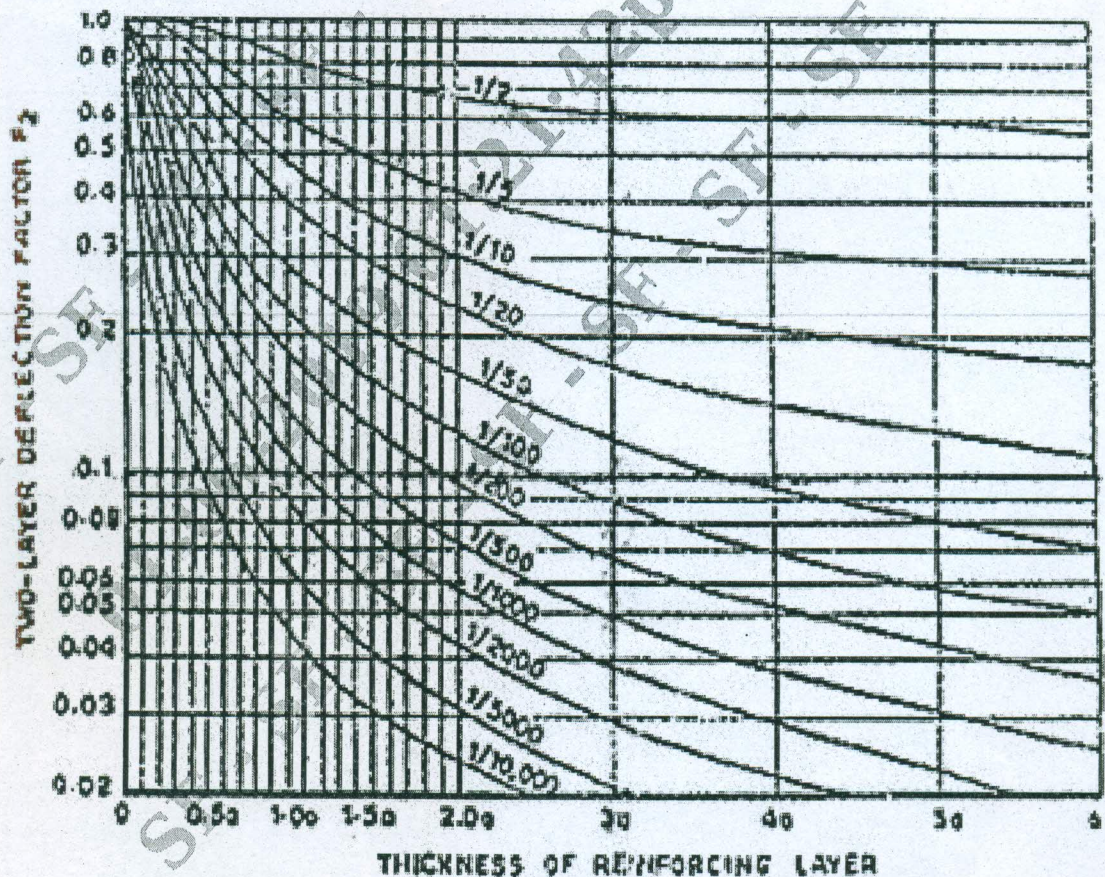

Fig.Q2(b)
- b. A plate load test conducted with 0.3m diameter plate on subgrade and on a pavement of thickness 0.4m, sustained pressure of 0.1 MN/m2 and 0.40MN/m2 respectively at 5mm deflection. Design the pavement section for 50kN wheel load and contact pressure of 0.7MN/m2 for an allowable deflection of 8mm using Burmister's approach. If you want to maintain the deflection of 6.5mm. What would be the required thinness? [Use the chart in Fig.Q2(b)]. (12 Marks)